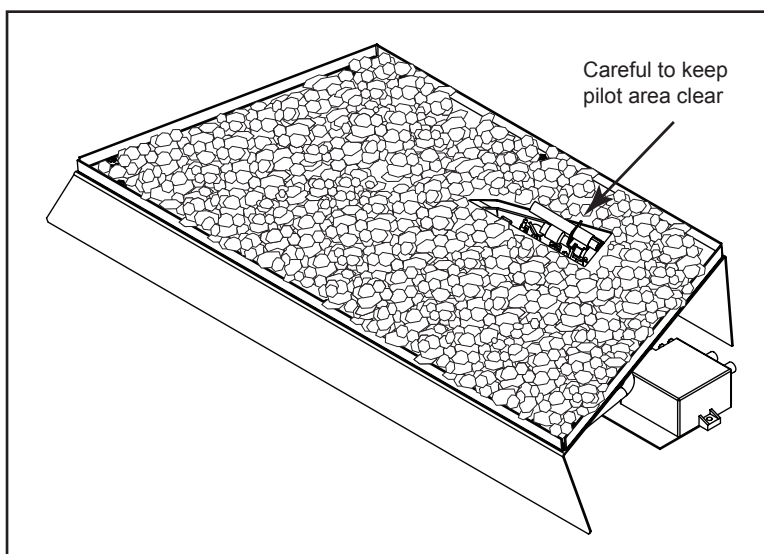

Figure 5.1 - Media Placement
1. Use all supplied bags of media and place on top of the engine assembly with cover in place. Smooth out the glass into an even layer over the engine assembly as shown in the figure below. See Figure 5.1.